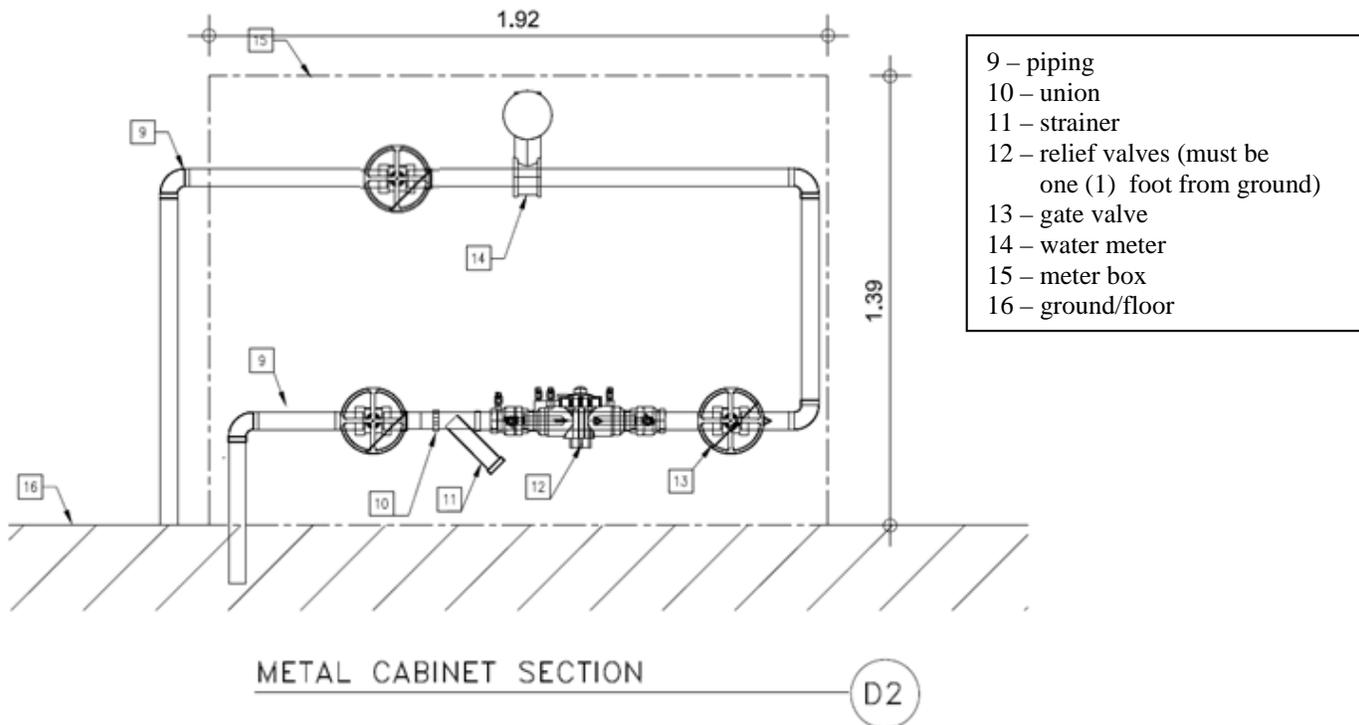

Figure 1
- D. Excavate and bring 2 inch line to surface. Construct a metering cabinet install a 2'' Back Flow Preventer (BFP) RPZA type, provided by the government, with at least one pipe union before or after the assembly and gate valves before and after the assembly inside the cabinet. Install a new water meter, **analog (mechanical)**, inside the cabinet, with one gate valve after the meter. See Figure 1 below for a diagram of the new pipe configuration and cabinet dimensions.
3. **GV 67 in MH 130 between B93 (fire station) and the playground on the north side of B93. Replace with a new 8 inch gate valve with non-rising stem valve and with corrosion resistant disk such as rubber. Similar or equal to AVK flanged gate valve PN 16 reference number 06-200-30014. Similar to item 2 (GV 53) above.**
- ... B97 Pool - Excavate and reveal the feed to the pool. Construct a metering cabinet at the location of the feed and install a 2'' BFP RPZA type, provided by the government, with at least one pipe union before or after the assembly and gate valves before and after the assembly inside the cabinet. Install a new water meter, similar or equal to an Endress+Hauser Proline Promag 10D, inside the cabinet, with one gate valve after the meter. See Figure 1 below for a diagram of the new pipe configuration and cabinet dimensions.